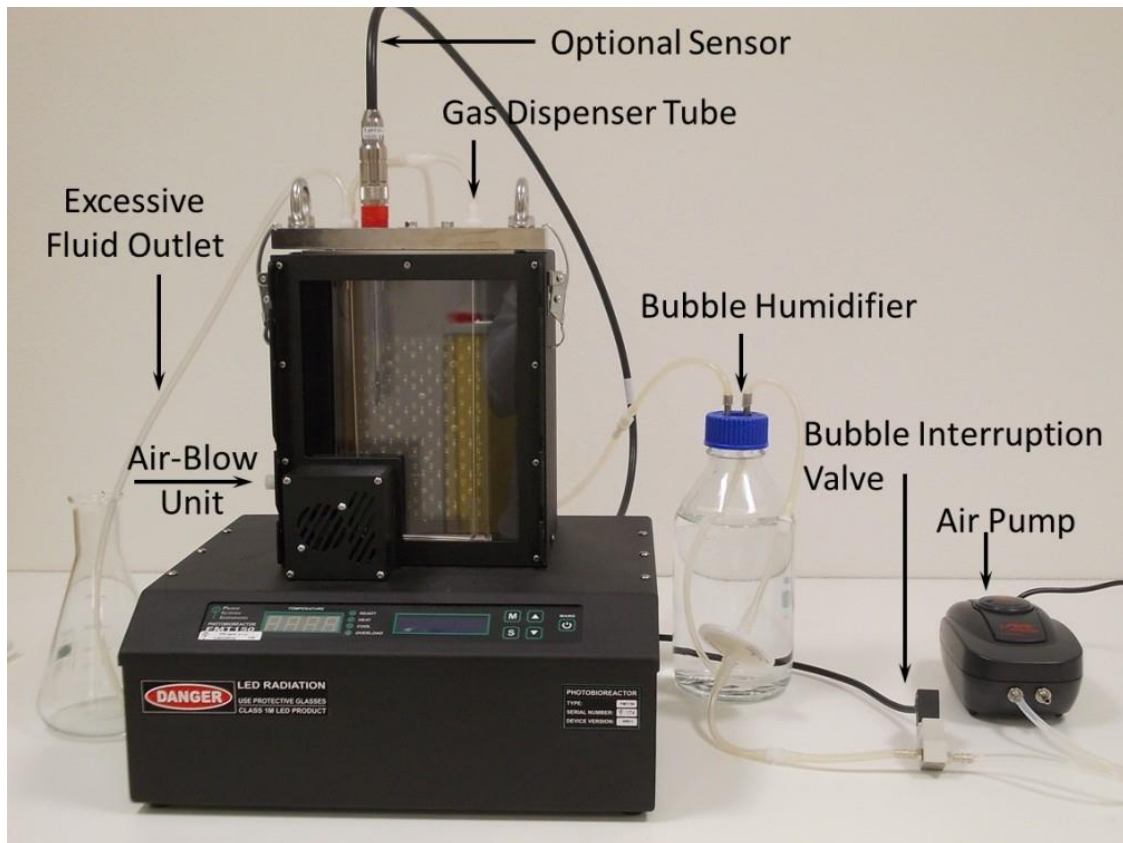

Fig. 19 FMT150 set-up with air pump supplying the gas.
The gas supply to the photobioreactor consists of four main parts – pressurized gas source, bubble humidifier, the bubble interruption control valve, and gas dispenser tube (Fig. 19). All parts are connected with flexible silicone tubing.
- After autoclaving, connect the bubble humidifier bottle as described in the following steps. Remove the Lock ring plug from the silicon tubing and connect the MTLL Luer Lock with FTLL Luer Lock placed in the main gas dispenser tubing. Prepare silicon tubing of approximately 30 – 35 cm length and connect it with bubble interruption valve as shown in Fig. 19. Connect 20 µm air filter* with the MTLL Luer Lock end of the silicon tubing from the humidifier bottle and via other FTLL Luer Lock connect with the silicon tubing coming from the bubble interruption valve.